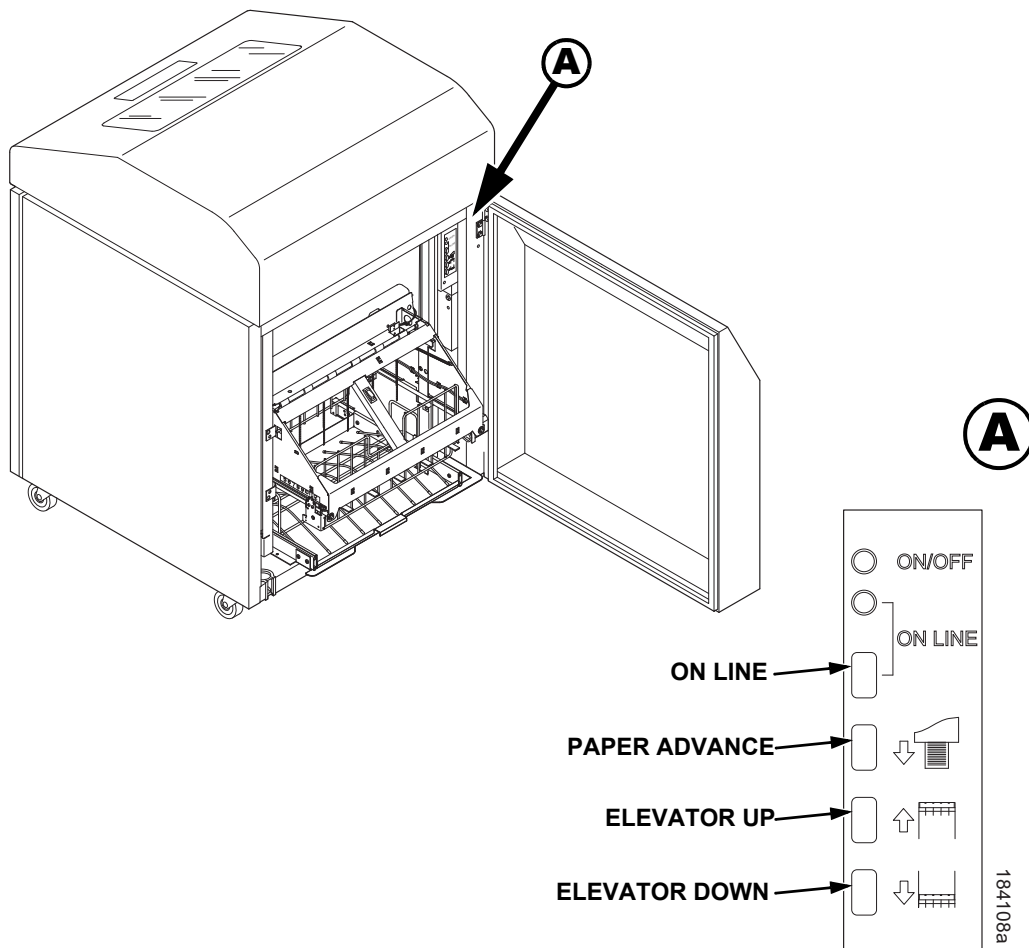

Figure 50. The Rear Control Panel
2. If necessary, press the **ONLINE** key on the front panel or rear control panel to take the printer offline. (Figure 50.)
3. Press the **ELEVATOR UP** key and wait for the elevator assembly to reach the top of its travel. (Figure 50.)